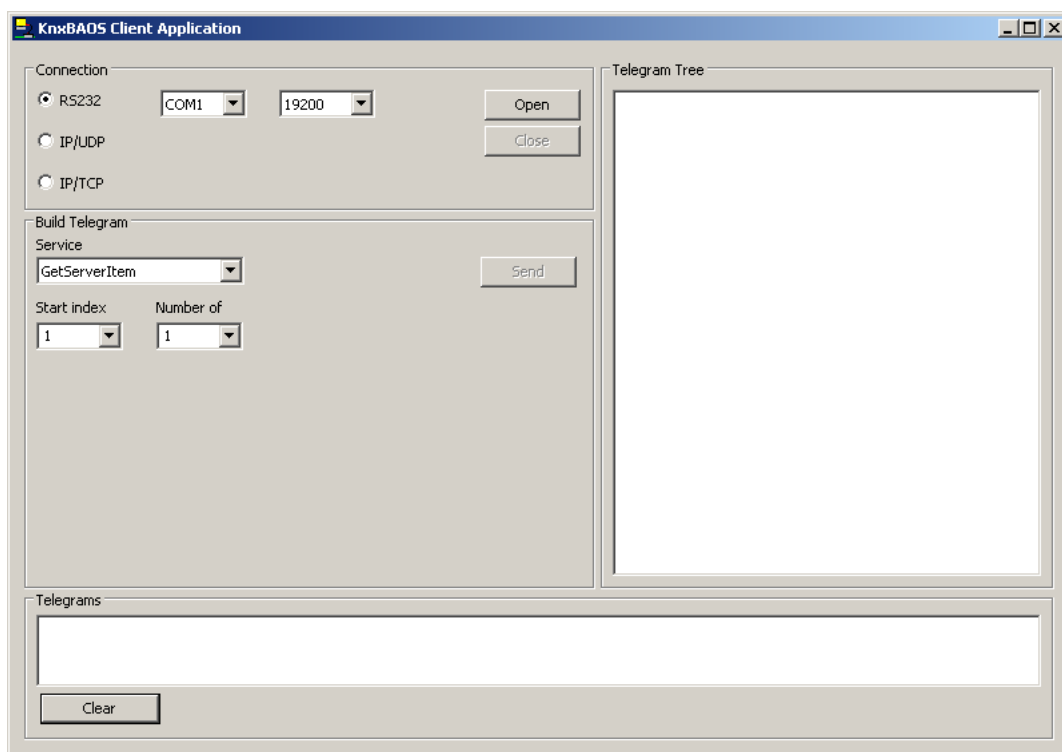

Figure 1 – KnxBaos Client screenshot
- Open the KnxBaosClient software (see Figure 1).